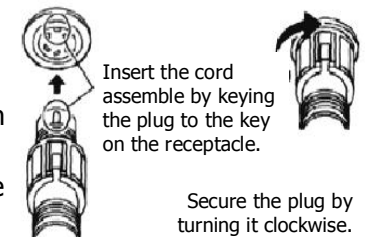

**Figure 1.** Soldering iron stand with solder wire holder
1. Install the solder wire to the soldering iron holder as in Figure 1.